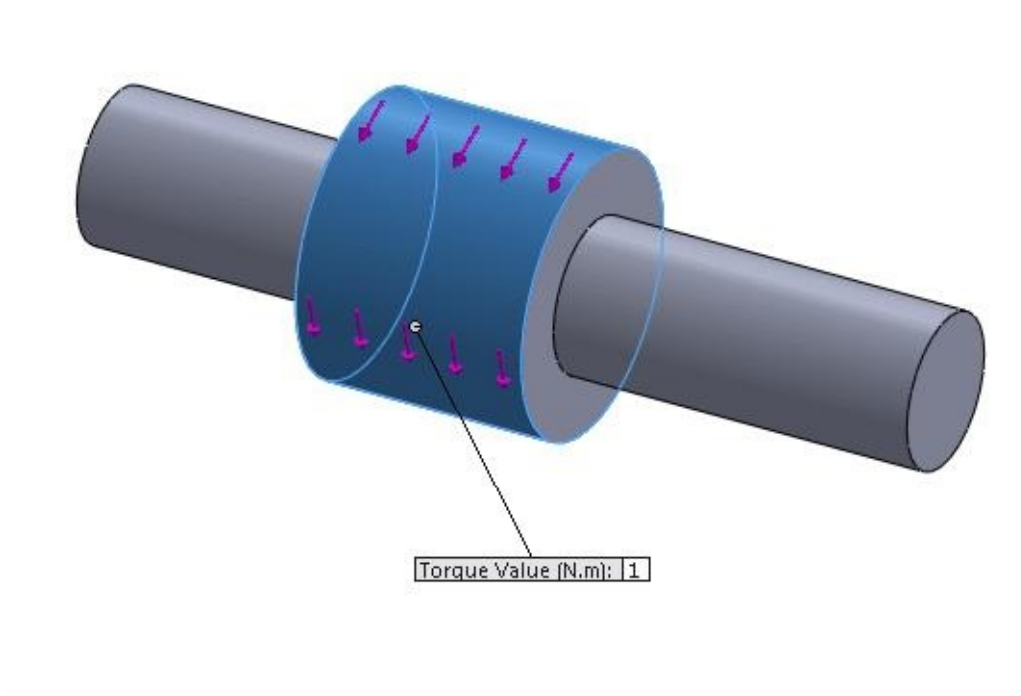

Figure-40. Preview of torque applied
- Select the round face on which you want to apply torque. Preview of the torque will display; refer to Figure-40.